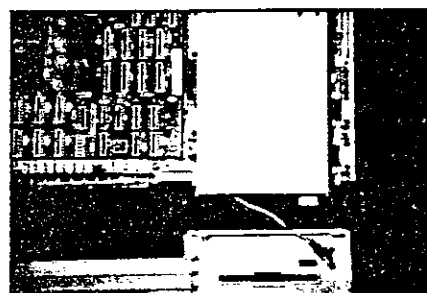

Fig. 3-5. Drive Screw Locations
**3.3.2** Install the 4 screws in the sides of the drive bracket at locations T2, T4, L2, L4. See Fig. 3-5.